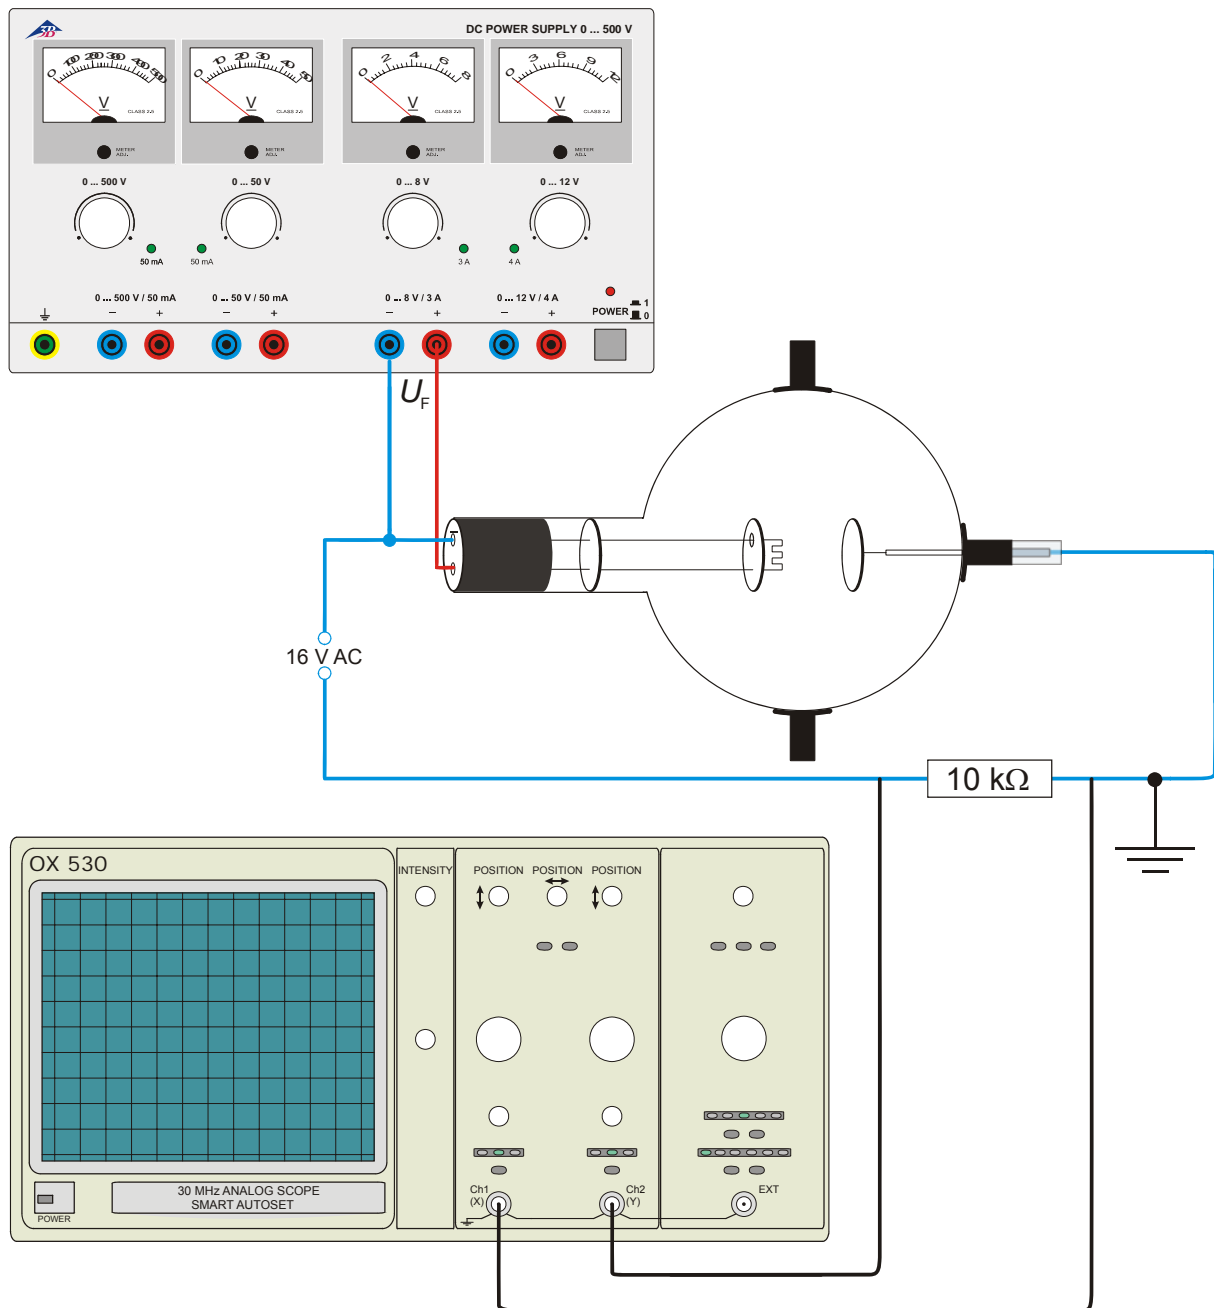

Fig. 3 Diode rectifier
- Set up the circuit as in Fig. 3 with $U_F = 6.3$ V and $U_A = 16$ V AC